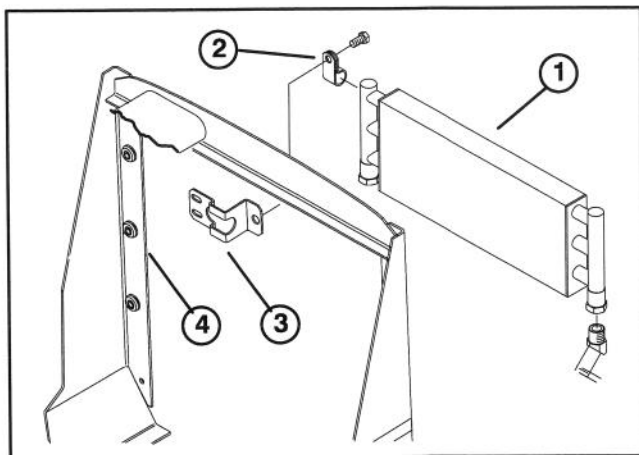

Figure 7
2. Remove (2) hair pin cotters and clevis pins securing hood brackets to hood pivot. Remove hood.
3. Remove (2) 3/8–16 x .75 lg. capscrews securing oil cooler R-clamps to mounting brackets (Fig. 7).
5. Remove capscrews securing oil cooler mounting brackets to radiator support braces (Fig. 7).